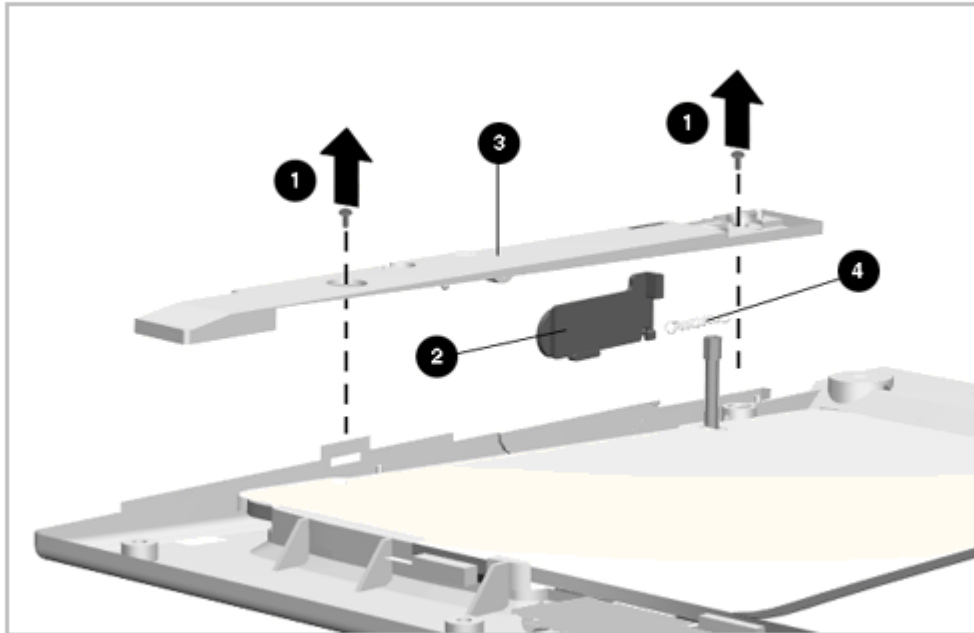

Figure 5-42. Removing the Battery Release Assembly
2. Remove the two screws [1] from the release holder [3] (Figure 5-42).
3. The release holder, spring, and latch are installed as an assembly. Lift out the release holder [3] (Figure 5-42). The battery release [2] is attached to the release holder with its spring [4].